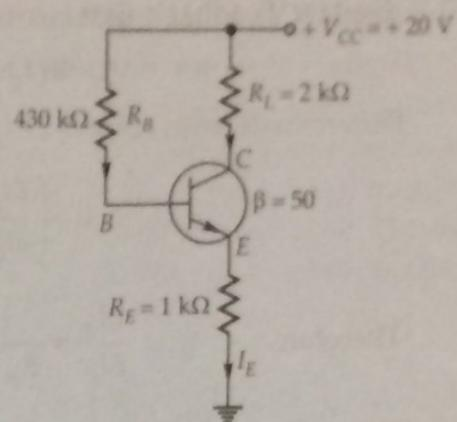

Figure 5.34
**Example 5.15** For the emitter bias circuit as shown in Fig. 5.34, determine  $I_B$ ,  $I_C$ ,  $V_{CE}$ ,  $V_E$ ,  $V_B$ ,  $V_C$  and stability factor  $S$  ( $V_{BE} = 0.7$  V).